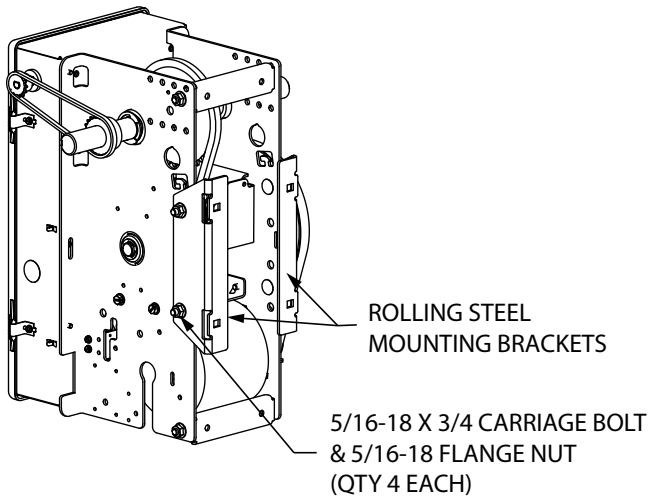

Fig. 1
2. Remove wall mount brackets from operator. Attach rolling steel mounting brackets to the operator using the fasteners provided. Figure 1.